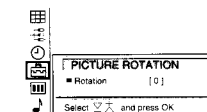

Fig. 17
- Select »Picture Rotation« with Δ or ∇ - and press OK. The PICTURE ROTATION menu appears. (See Fig. 17.)